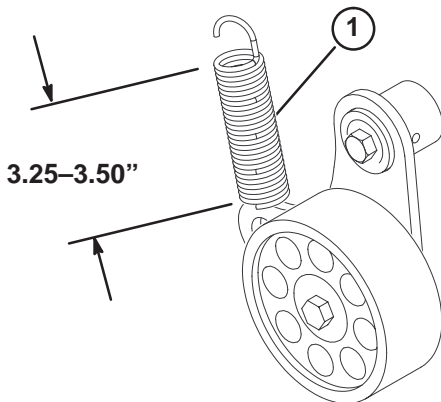

Figure 12
2. A new belt will be properly tensioned, when idler spring body is extended to a length of 3.25 – 3.50" (Fig. 12).